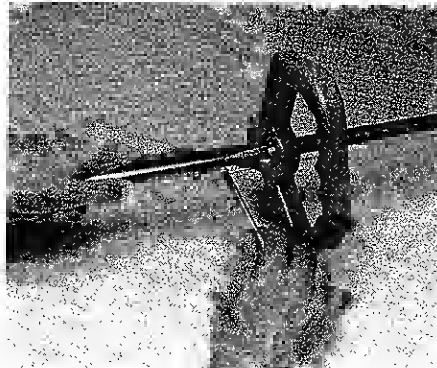

FIGURE 4
4. Adjust the two tubes until the locking screw holes align and insert the screws. Tighten the screws with a screwdriver. Figure 4